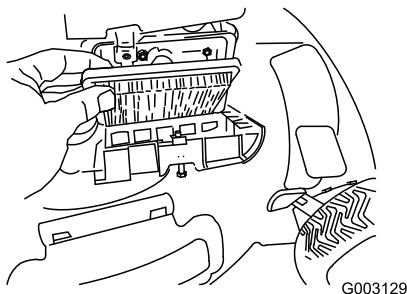

Figure 34
4. Install the cover (Figure 34).